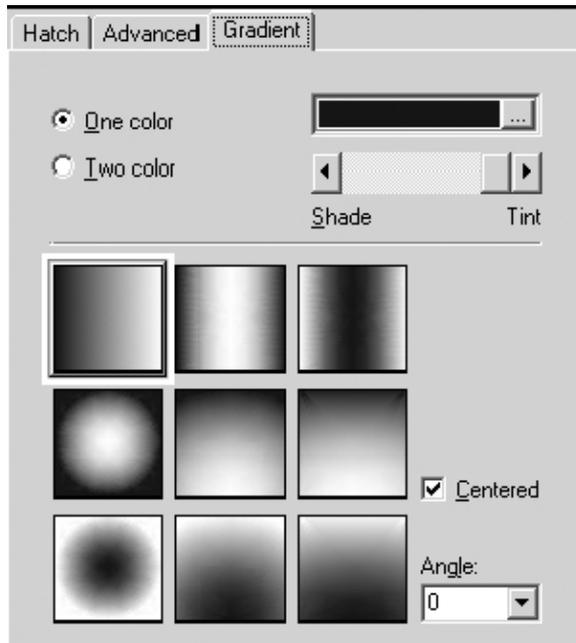

Figure 17.2c
- The third tab - **Gradient** (Figure 17.2c) - allows you to apply a color or colors with graduated intensity; that is, you can create colors that get more or less intense from one part of the colored area to another.